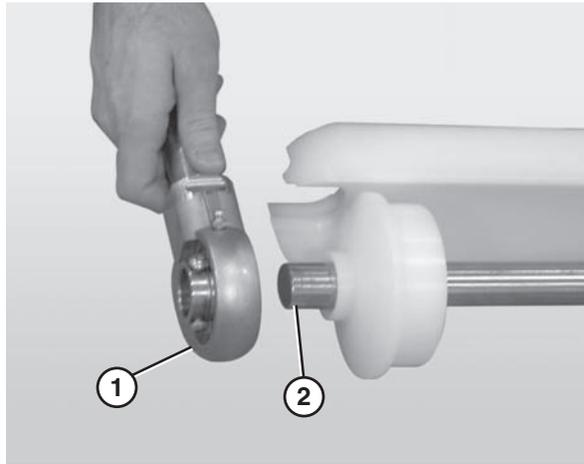

Figure 73
- Slide the bearing shaft assembly (**Figure 73, item 1**) off the idler shaft (**Figure 73, item 2**).